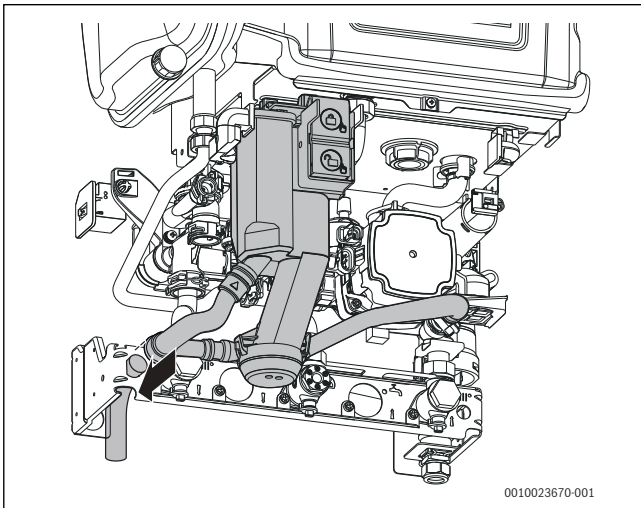

Fig. 49 Condensate connection
- ▶ Refer to Fig. 49, condensate connection: